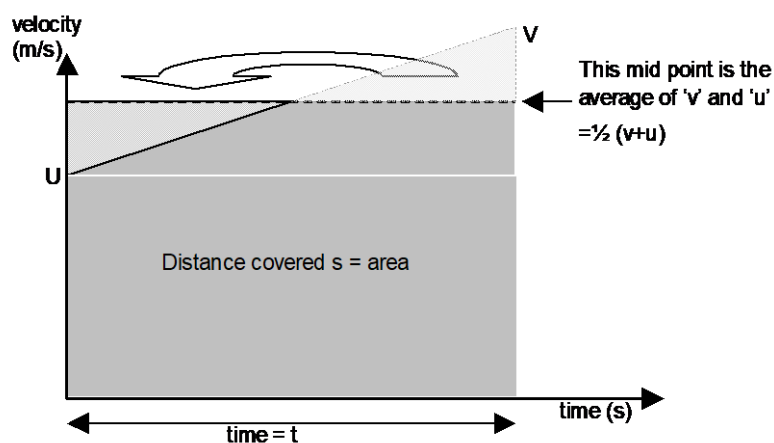

Figure 9
44. To find the distance covered (area under the graph), one way is to form a rectangle from the original graph trapezium by chopping off the top half of the triangle (shown shaded in figure 9 below) and gluing it back on top of the lower half.